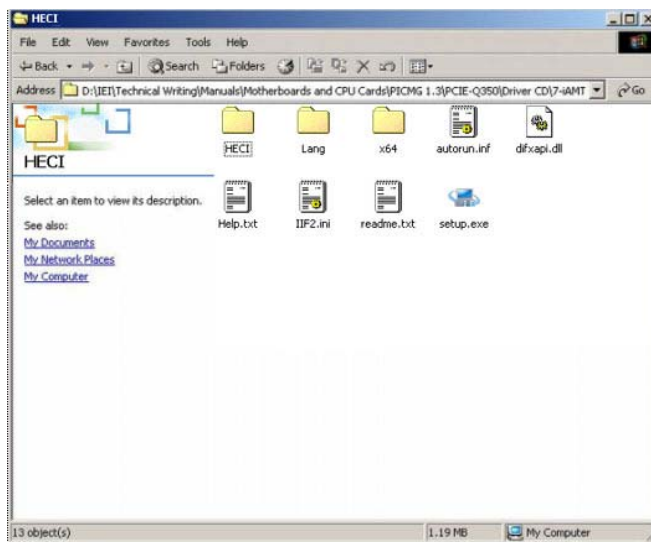

Figure 7-69: HECI Driver Installation Icon
Step 14: Click on the HECI directory icon. The window in **Figure 7-69** appears.
Step 15: Double click the setup icon in **Figure 7-69**.